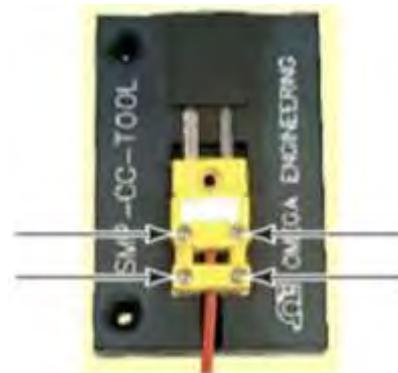
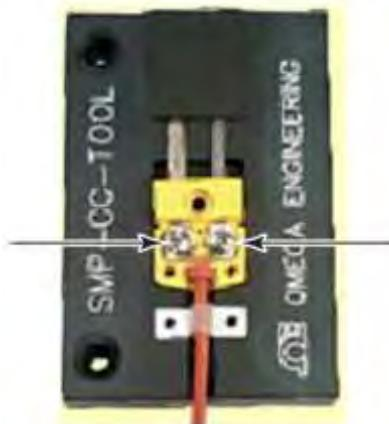

Figure 140
Figure 141
- (1) If assembly tool SMP-CC-TOOL is used, place connector in tool as shown in Figure 140 (Connector with blade contacts is shown, but use is identical for connectors with socket contacts.). If tool is not used, continue to step 2.
- (2) With the #2 Phillips screwdriver, remove the four screws, highlighted by the arrows in Figure 140, from the connector body and discard.
- (3) Remove top cover with integral clamp and discard.
- (4) Loosen the two screws that secure the wires, shown in Figure 141, two full turns. This will be enough to allow the wires to be removed.